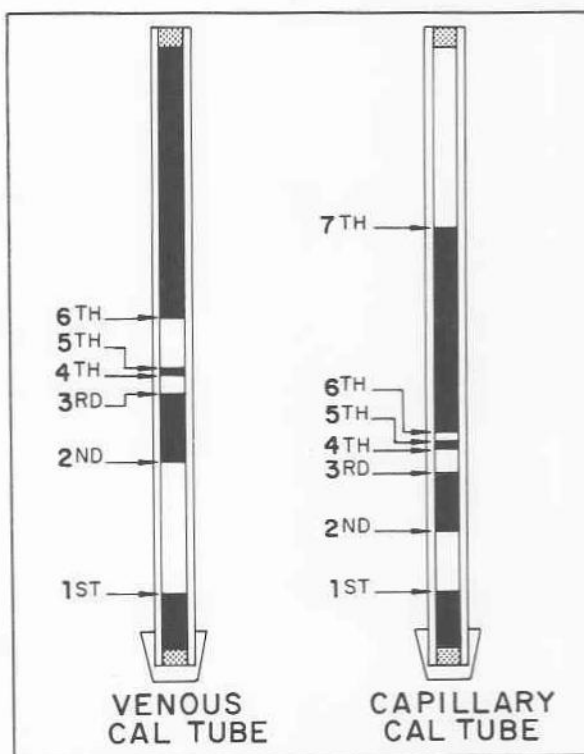

Figure 4.6. Interface Locations in QBC Calibration Tubes.
- (1) Place the Reader in the "VEN" mode and insert the Venous Calibration Check Tube.
- (2) Referring to Figure 4.6, align the 1st interface (black-to-pale green) with the cursor and press "ENTER".
- (3) Continue reading the 2nd through the 6th interfaces in the same manner.
- (4) Record the Venous Cal Check values of the seven hematology parameters; then press the MODE button twice rapidly to obtain HB. Record the HB value and remove the Tube. Note: Record HB even if the check value is flashing.
- (5) Select the "CAP" mode, insert the Capillary Calibration Check Tube and repeat the reading procedure, including the 7th interface, as shown in Figure 4.6.